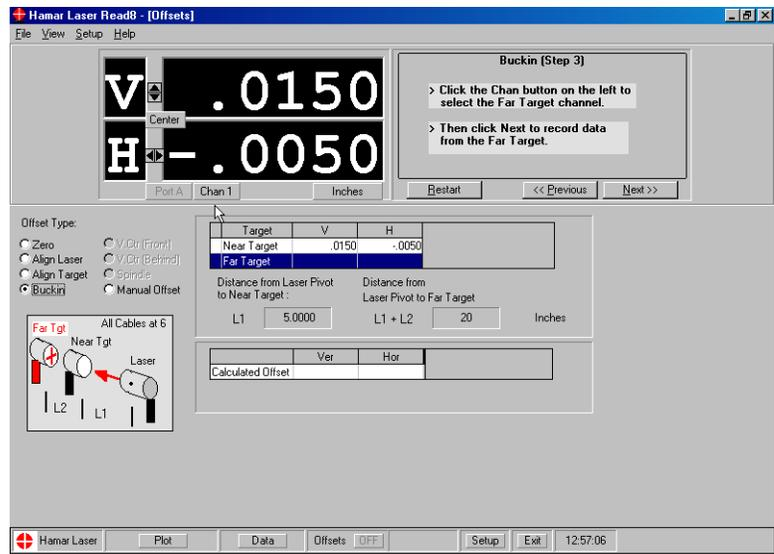

Figure 58 – Buckin Offset Screen – Recording Far Target (Step 3)
10. Click Next to record data from the near target and proceed to Step 3 (see Figure 58).